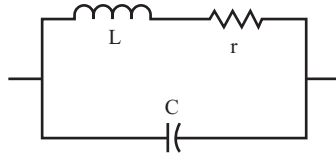

FIGURE 12.10
47. In the circuit shown in Figure 12.10, $L = 10 \text{ mH}$, $C = 0.02 \mu\text{F}$, and $r = 7 \text{ ohms}$. Find f_r , X_L , X_C , Z , Q , and the bandwidth. _____